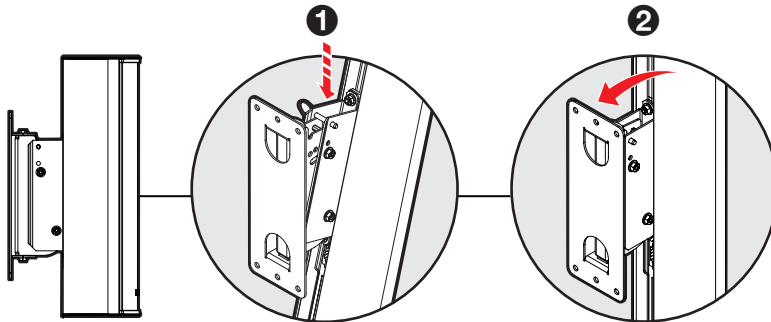

Figure 16. Attaching Speaker to Wall Mount
2. Attach speaker to Wall Bracket Assembly by lowering the Speaker Bracket and bottom Angle Set Screw onto the Wall Bracket Assembly mounting hooks (see figure 16, **1**) and push speaker towards the wall until the Security Pin locks into the Security Pin Hook (**2**).